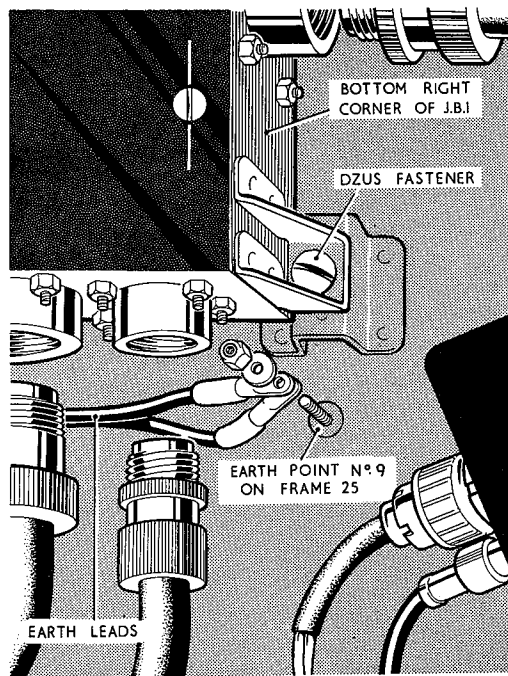

Fig.4 J.B.1 lower attachments and earth point No.9
- (1) Render the aircraft electrically safe, as described in Group A.1.
- (2) Open the engine starter access door.
- (3) Disconnect the earth lead EA9 from earth point 9 located adjacent to the lower right hand corner of J.B.1 (fig.4).
- (4) Disconnect all the plugs and sockets on the cable assemblies at J.B.1. Seal off the plugs and sockets with approved caps and covers and stow the cable assemblies away from the box.
- (5) Release the two Dzus fasteners at the lower corners of the box (fig.4) and lift the box upwards to disengage the two top mountings.
- (6) Lower the box and remove it from the aircraft, complete with earth lead EA9.